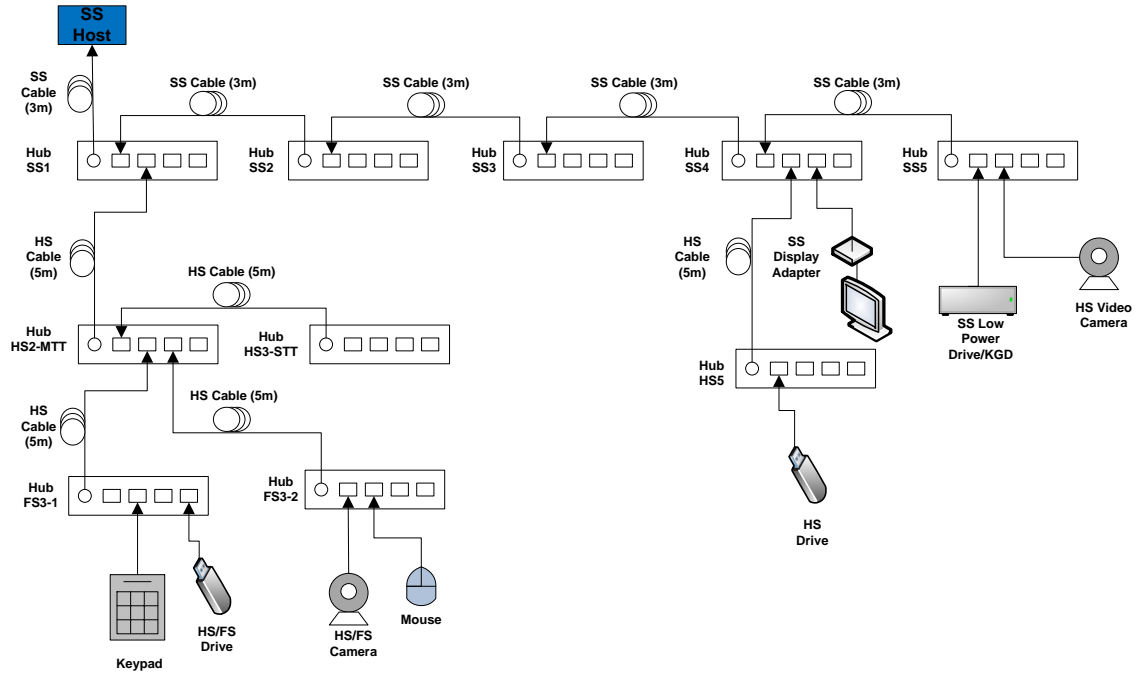

Figure 10-4: Modified Host (SuperSpeed Interoperability) Interim Tree
- Attach one KGD to hub SS5 of Modified Tree. Refer to Figure 10-4